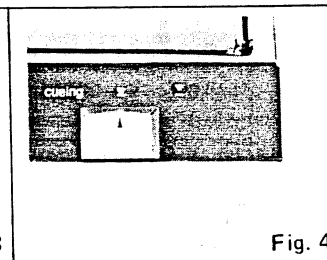

Fig. 4
6. Move the tonearm over the record and set the cueing knob to the "▼" position. (See Fig. 4.)